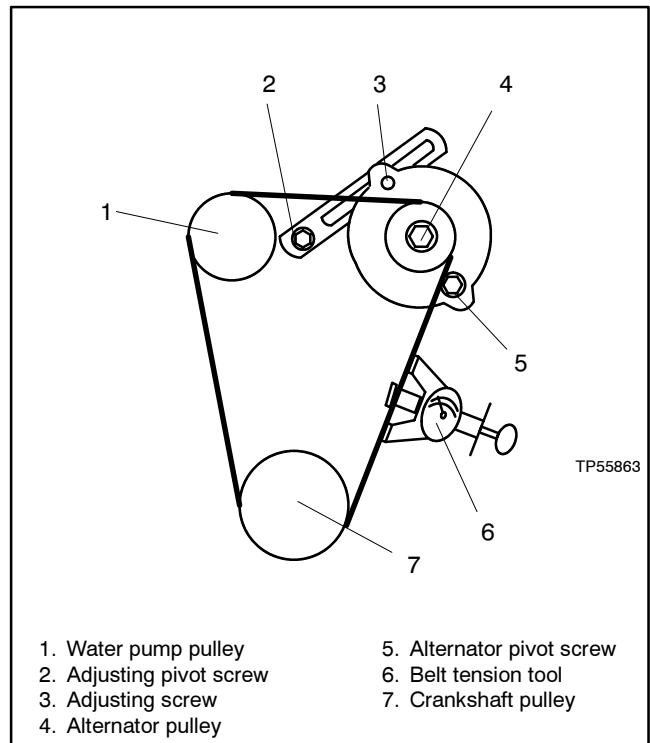

Figure 3-9 Belt Tension Test Location, Typical
4. Check the belt tension at the midpoint of the longest span of the belt using a belt-tensioning tool set to 74.6 Nm (55 ft. lb.). See Figure 3-9. Recheck new belt tension after 10 minutes of operation. If the belt is not within specifications, go to step 5. If the belt is within specifications, go to step 9.